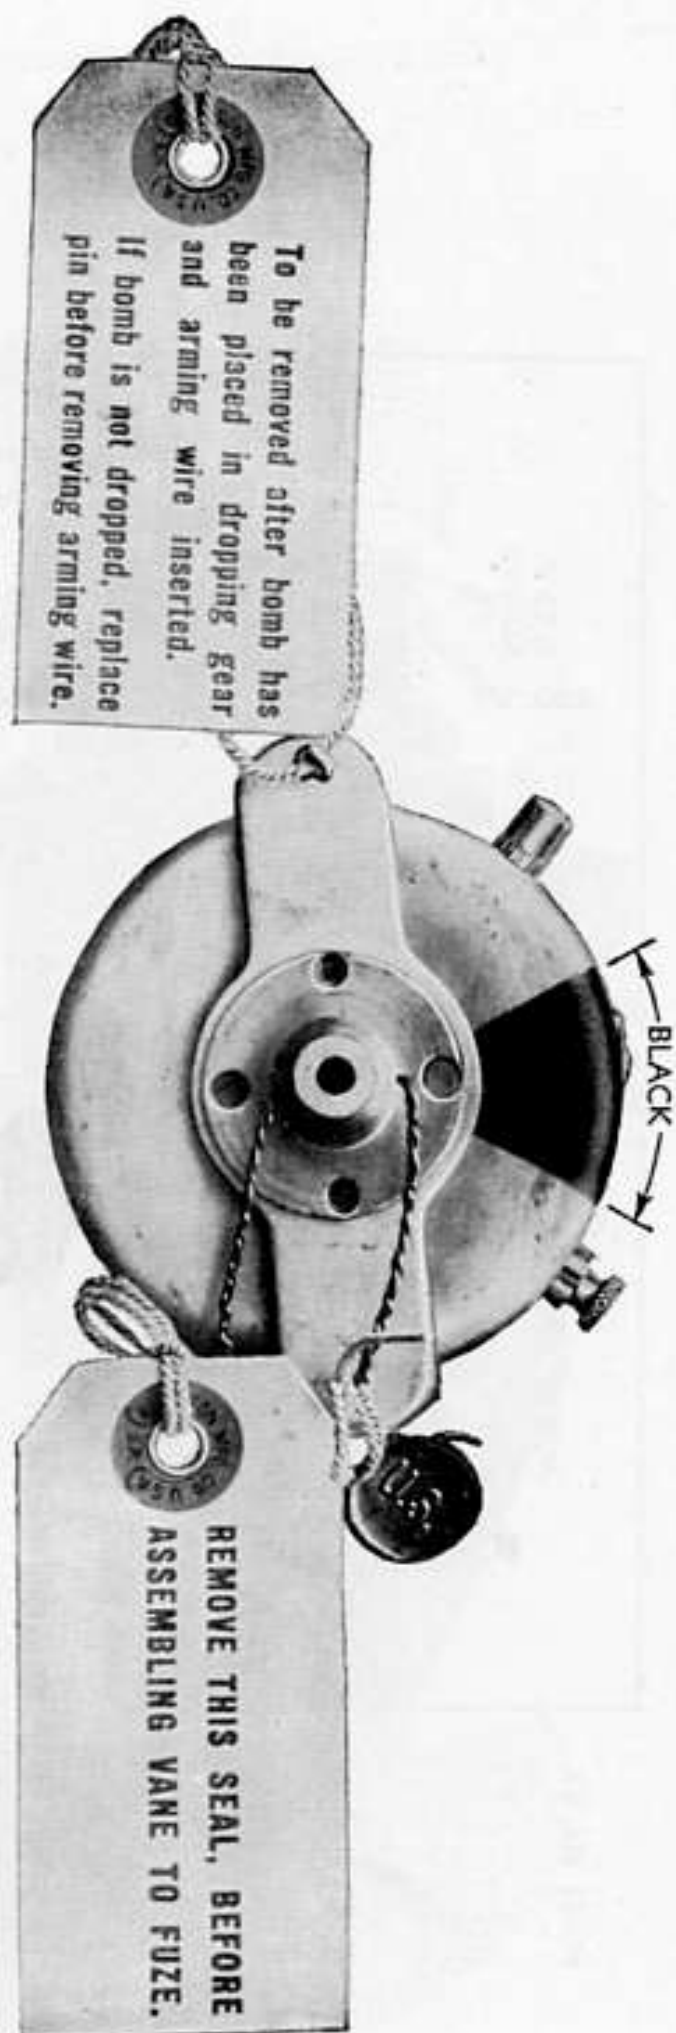

Figure 62. FUZE, bomb, M139.
46. FUZE, BOMB, M139 (NOSE). FUZE, bomb, M139 (nose) (fig. 62), is a selective SQ—0.01-second delay impact fuze. Except for the delay time and the marking, this fuze is identical with FUZE, bomb, AN-M103 (nose) (par. 37). A segment of one-eighth of the head (vane cup) of this fuze is painted black to indicate the delay. The marking is the same as that used to indicate the same delay, 0.01 second, on the M14 primer detonator.